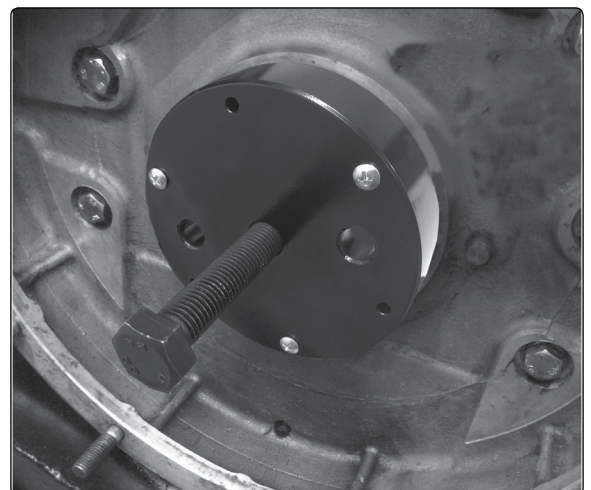

fig.1
- 4.1. **Removing the rear crankshaft oil seal. fig.1.**